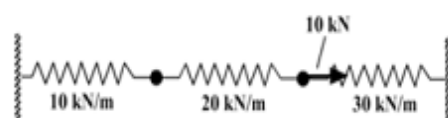

Figure-10
- (c) Three springs are joined together as shown in *figure-10*. Evaluate nodal displacements and forces in the springs. 07